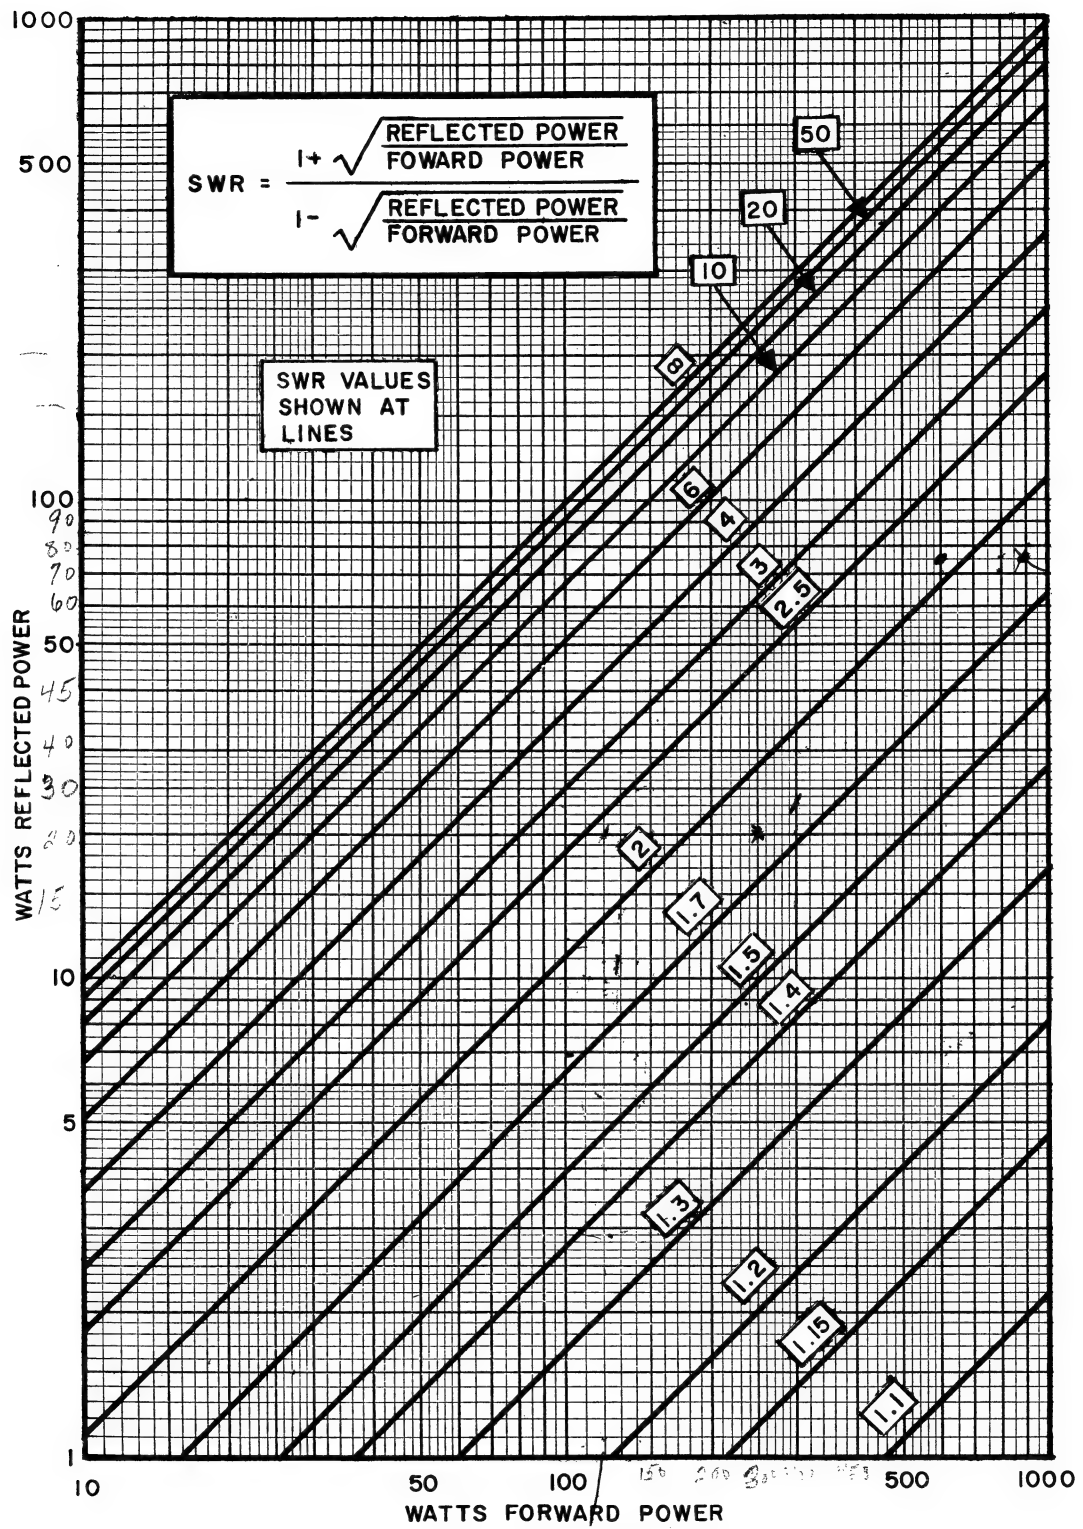

Figure 6. VSWR Graph for Forward Vs Reflected Power
d. The forward and reflected power readings, in conjunction with the chart of figure 6, may be used to compute vswr. In some cases, it may be convenient to multiply the forward and reflected power readings by a factor of 10. The method of reading swr from the chart remains the same. For example, 50 watts forward and 5 watts reflected result in a